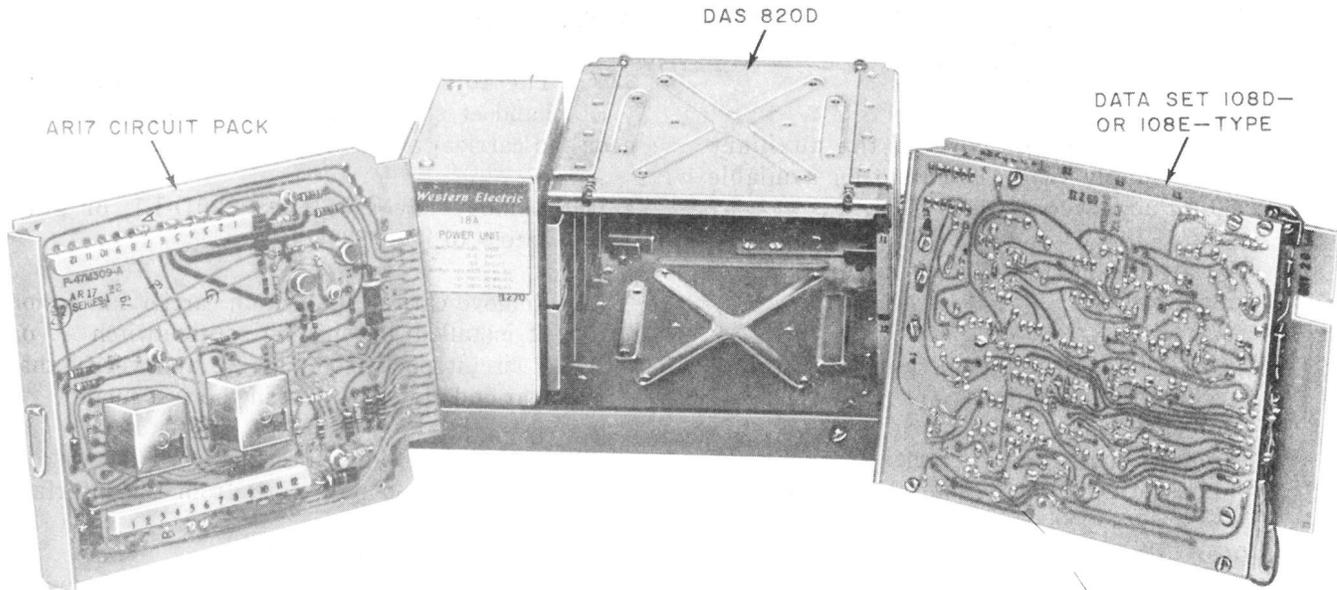

Fig. 2—Data Set 108D- or E-Type and AR17 Circuit Pack Used in Data Auxiliary Set 820D
- (1) Remove cover of DAS 820D-L1, or gain access to DAS 820D-L1A.
- (2) Remove carrier squelch on carrier fail option (if installed) by opening screw switch A7 on AR17 circuit pack (see Fig. 2), and verify that the near-end station is *not* in the test mode.
- (3) Remove customer interface cord from J3 of the DAS, and plug cord from the interface test adapter in its place.
- (4) Operate 1013 handset TALK MON switch to MON, and connect leads to data set TP1 and TP2 (2-wire or 4-wire).
- (5) Clip one end of W1AD cord to terminal 2 (BA lead) of interface test adapter.
- (6) Using free end of W1AD cord, momentarily touch terminal 10 (-24V) and then terminal 9 (+24V) of the interface test adapter for an E1A interface arrangement or momentarily touch terminal 10 (-24V) for a current interface while monitoring with 1013 handset.
- (7) Monitor for shift in tone.
- (8) Remove handset and interface test adapter, replace carrier squelch on carrier fail if originally installed, and replace cover, if supplied.
- (1) Remove cover of DAS 820D-L1 or gain access to DAS 820D-L1A.
- (3) Remove customer interface cord from J3 of DAS, and plug cord from the interface test adapter in its place.